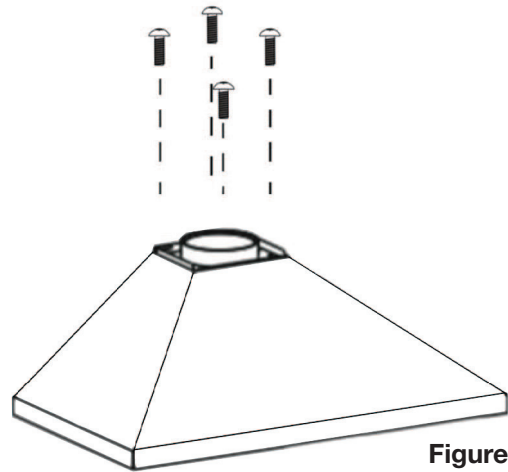

Figure 2
- Fix the damper on the top vent of hood with 4 screws (C) (see Figure 2).